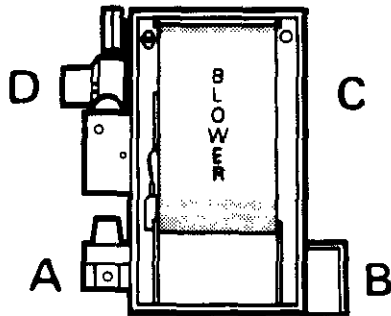

Figure 29 (4-042)
Install furnace with gas and electrical controls, draft inducer and pressure switch in one of two positions. You may leave gas and electrical controls draft inducer and pressure switch in as-shipped position as shown in position "A" in Figure 29, or you may relocate the controls to position "B" in Figure 29.
You may move controls to position "B" shown in Figure 29. If you decide to move controls, first move gas, then electrical controls. Starting position for controls is front of furnace; ending position is rear of furnace.
- At location "B" Figure 29, install 7/8"-insert bushing in furnace casing. Install junction box with blower door interlock switch facing blower end of furnace. See Figure 20 for interlock switch location.